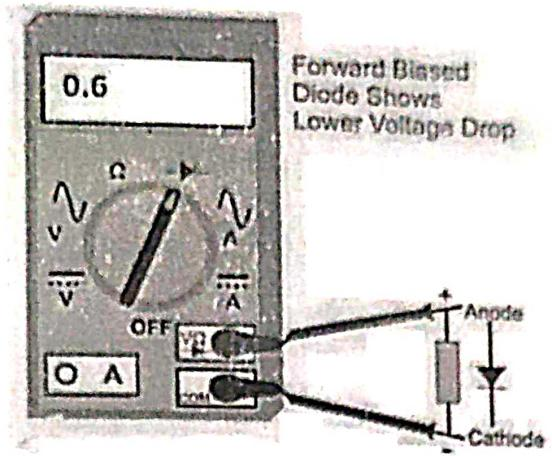

Fig: 3 Diode testing with multimeter.
1. Before connection of the diode in the circuit test that diode is working, for that connect the diode the anode terminal with +ve probe of multimeter and cathode with -Ve probe and adjust the multimeter knob at Diode symbol as shown in figure 3. If value on multimeter is zero then diode is working fine and if lower voltage present in the diode it is due to charged capacitor.